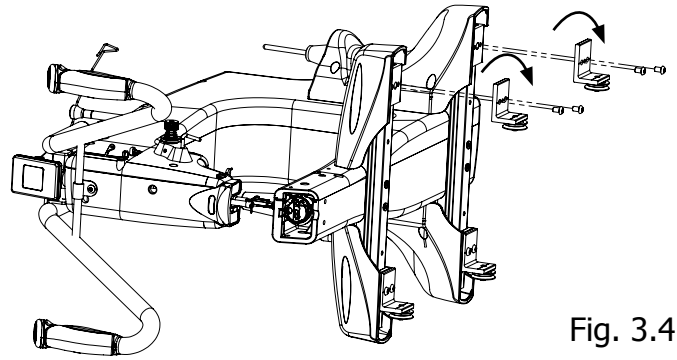

Fig. 3.4
Step 4: Re-attach each vertical wheel bracket so that the wheel on each faces towards the other wheels on the machine using the same screws that were previously removed as shown in Fig. 3.4.